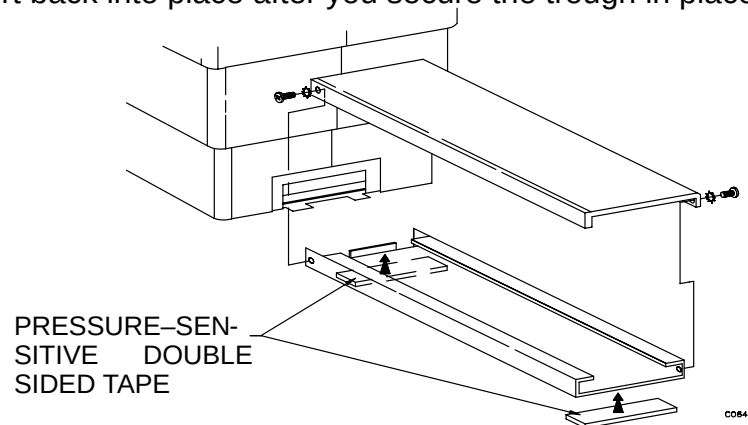

FIGURE 45 FOOT SWITCH ARRANGEMENT
6. Remove the protective strip from the pressure sensitive tape. Refer to Figure 45. Place the bottom trough along the scribe line and press down to secure it in place. (It may be necessary to slide the Patient Support back slightly to have adequate room to maneuver the trough. Slide the Patient Support back into place after you secure the trough in place.)